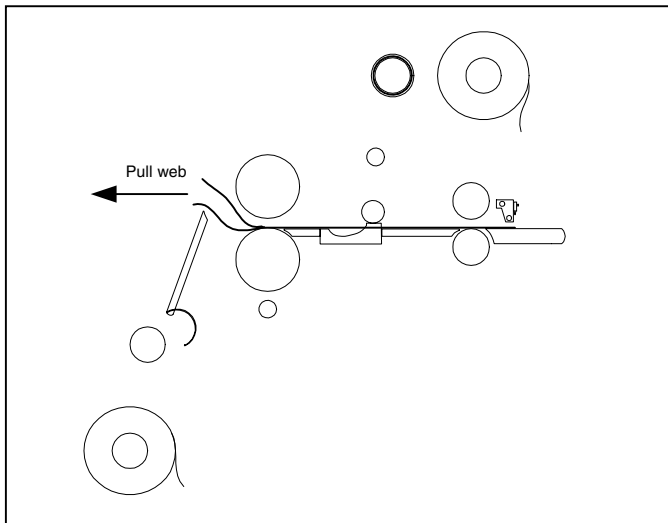

Fig. 34
5. Carefully grab hold of the web (top and bottom film), from the front operating position and pull towards you (Figure 34).